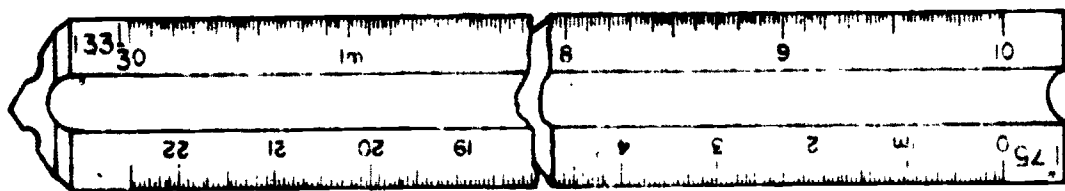

FIGURE 3
- A. 1:25 ratio has subdivisions representing 20 mm of width with calibrations numbered in 500 mm increments, and measurements are made by reading directly from the 1:25 scale in meters and millimeters (Figure 3)
- B. 1:33 1/3 ratio has subdivisions representing 20 mm of width with calibrations numbered in 1000 mm increments, and measurements are made by reading directly from the 1:33 1/3 scale in millimeters (Figure 3)